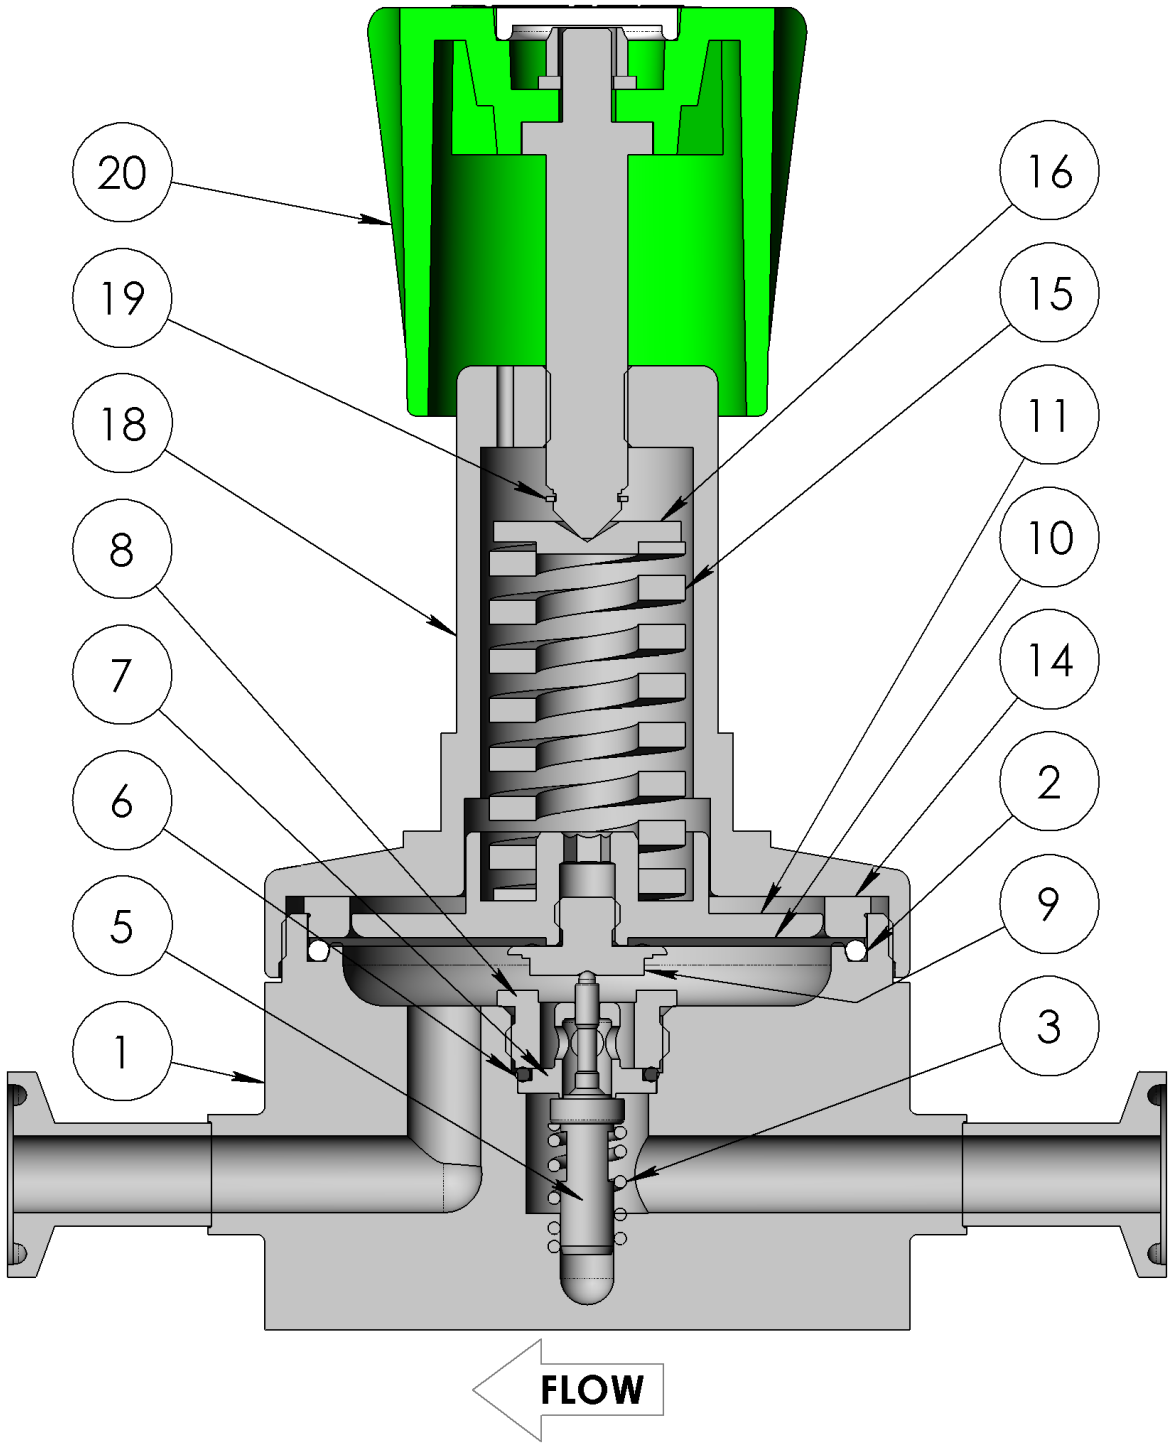

Fig 2
1. Secure the body (1) in a vise.
2. Insert the poppet spring (3), poppet (5), seat (7), and seat O-ring (6) into the body (1).
3. Lightly lubricate the seat retainer threads (8) and install into the body (1) using the seat retainer insertion tool. Torque to 11 lbf·ft (15 N·m).
4. Lightly lubricate the diaphragm screw threads (9). Fit the diaphragm (10) onto the diaphragm screw (9) then screw this into the bottom spring guide (11). Torque to 3.5 lbf·ft (5 N·m).
5. Fit the diaphragm O-ring (2) into the body (1).
6. Insert the sensing assembly into the body (1).
7. Fit the clamp ring (14) into the body (1) on top of the diaphragm (10). Orient per Fig 2.
8. Lightly lubricate the knob assembly stem (20) and thread it through the spring housing (18).
9. Secure the C-ring (19) onto the groove at the end of the stem (20).
10. Lubricate the recess of the spring guide (16).
11. Stack the set spring (15) and spring guide (16) onto the bottom spring guide (11).
12. Lightly lubricate the spring housing threads (18) and screw it onto the body (1). Torque to 37 lbf·ft (50 N·m).